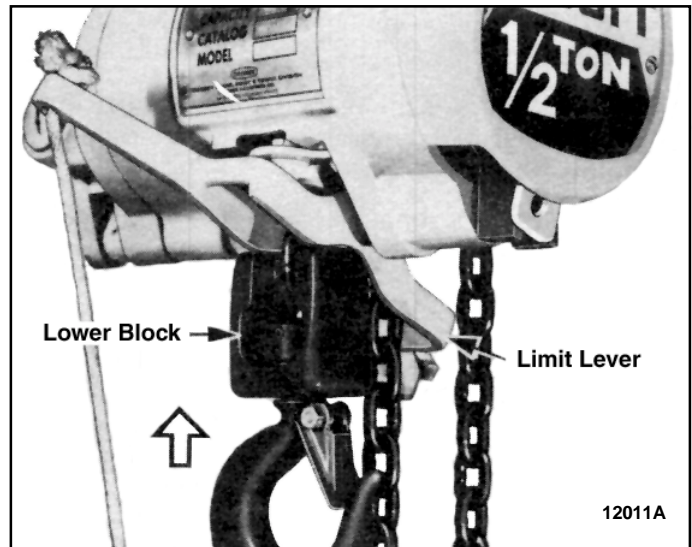
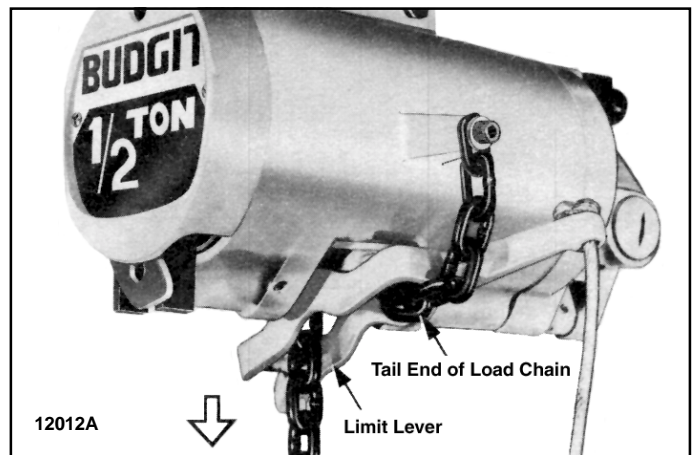

Figure 3-3. Control Lever Being Tripped by Lower Block.
Figure 3-4. Control Lever being Tripped by Tail End of Load Chain.
**3-5. UPPER AND LOWER LIMIT STOPS.** A lower block and chain operated limit stop is provided to guard against over travel of load in either raising or lowering direction, which can cause damage to hoist. When highest position is reached, the lower block trips the control lever (Figure 3-3). When lowest position is reached, the tail end of load chain trips the control lever (Figure 3-4). The control lever is connected to the control shaft which actuates inlet valves controlling air pressure to air motor. Limit stops are intended as safety devices and should not be used as a routine basis to stop travel of lower block or shut off hoist.